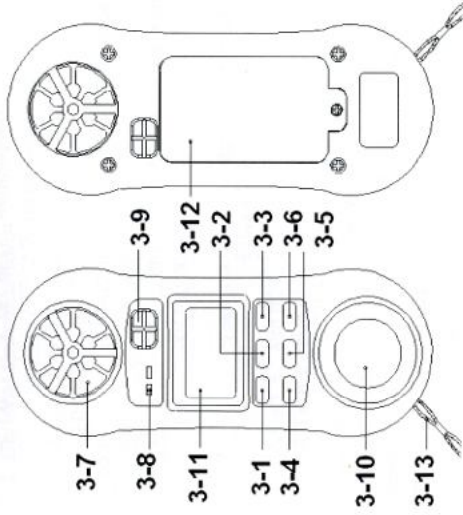

Fig. 1
- 1) Power on the instrument by pressing the " Power Button " (3-1, Fig. 1).
- 2) Select the Anemometer function by pressing " Function Button " (3-6, Fig. 1).
- 3) Press the " Unit/Zero Button " (3-4, Fig. 1) to select unit that you want and then face the " Air Flow Sensor " (3-7, Fig. 1) to the source of wind.
- 2) Plug a type K thermocouple probe in the " Thermocouple Input Socket " (3-8, Fig. 1).
- 3) Select the Temperature function by pressing " Function Button " (3-6, Fig. 1)
- 2) Select the Relative Humidity function by pressing "Function Button " (3-6, Fig. 1).
- 2) Select the Light Measurement function by pressing the " Function Button " (3-6, Fig. 1) until the light value is displayed. The light display digits are oriented 180° from the other function displays for easy exposure and output reading of the light sensor.
- 3) Press the " Lux/Ft-cd Button " (3-5, Fig. 1) to select measuring unit " Lux " or " Ft-cd ".
- * For best results zero the light sensor prior to use in a dark environment. Placing the light sensor end of the meter under a desktop or flat surface so as to block any light can accomplish this. Then press the "Unit/Zero Button" (3-4, fig. 1) to set the meter indication to zero.
Whenever press the "Hold Button (3-2, Fig. 1)" will freeze the current reading value with a "HOLD" symbol on the display.
1) The Data Record function records & displays the maximum and minimum reading values. Start the Data Record function by pressing the " Max./Min. Button " (3-3, Fig. 1) once. There will be a " REC " symbol on the display.
- (a) Press the " Max./Min. Button " (3-3, Fig. 1) once and the " Max " symbol along with the maximum value will appear on the display.
- (d) Clear the Max./Min. value recorded by pressing the " Hold Button " (3-2, Fig. 1) once. Previous recorded Max./Min. value will be given up and then revert to the REC. function keep on recording.
- 2) Open the " Battery Compartment / Cover " (3-12, Fig. 1) and remove the battery.